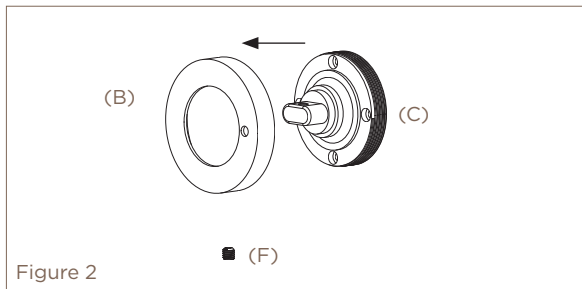

Figure 2
- 1.2 Unscrew the grub screw (F) from the outer rose privacy (B) and remove outer rose privacy (B) from the inner rose (C). Figure 2.